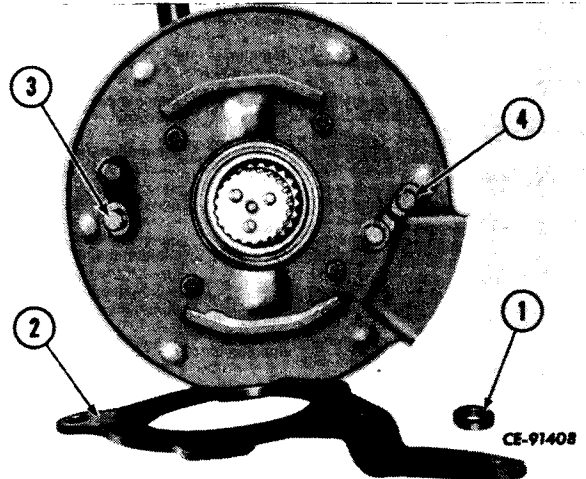

Figure 13-62
Remove operating cam lever (2, Fig. 13-62) and roller (1) from pawls (3 and 4) on backing plate.
Plate roller (1, Fig. 13-62) on pawl (4) on backing plate. Install operating cam lever (2) on left pawl (3) and under roller (1).